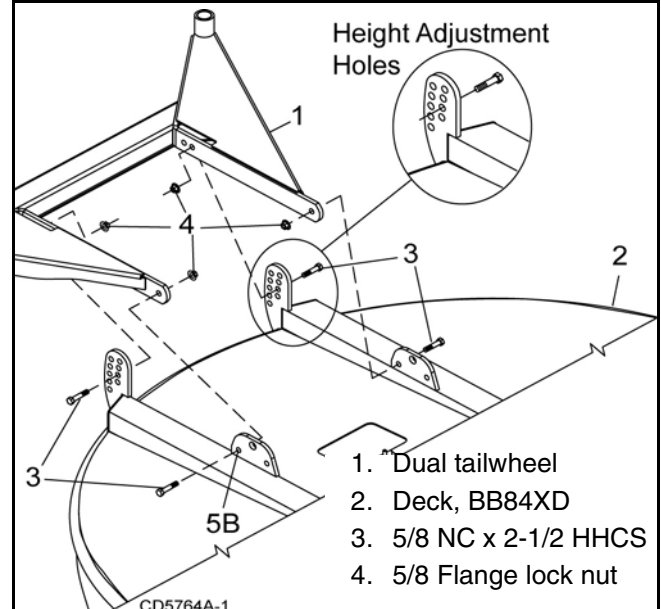

Figure 36. Dual Tailwheel Installation
1. Attach dual tailwheel (1) to main frame (2) using position 5B and desired height adjustment holes as shown in Figure 36.
2. Secure with cap screws (3) and hex nuts (4).